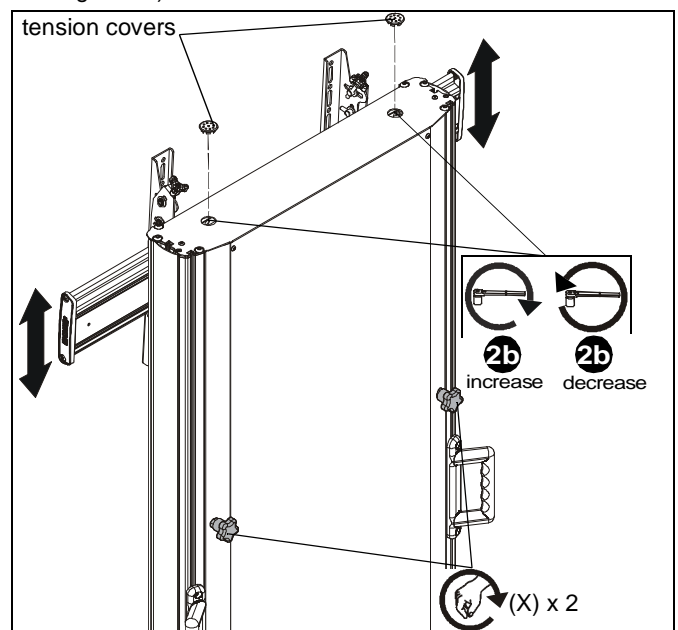

Figure 18
1. Height may be adjusted up or down by manually adjusting height of head assembly. (See Figure 18)
- a. Remove two tension covers. (See Figure 18)
- b. Use 1/2" deep socket wrench to increase or decrease tension. Turn screw clockwise to increase tension and counterclockwise to decrease tension. (See Figure 18)
4. (Optional) Install two stability knobs (X) on either side of the back of cart to further stabilize height adjustment. (See Figure 18)